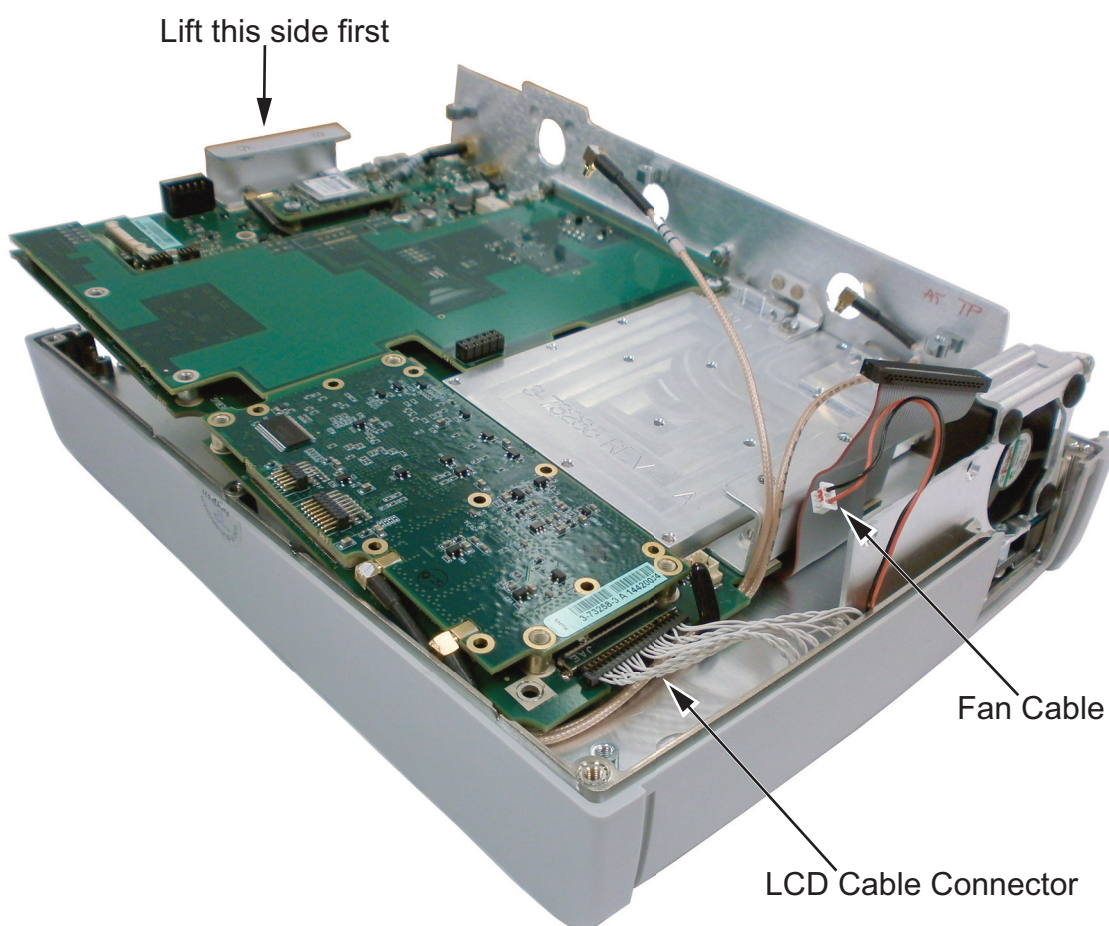

Figure 5-5. Removing Mother Board from Case
- a. First lift the assembly from side with the Keypad PCB Cable and move the assembly upward and away from LCD Cable side as shown in Figure 5-5 on page 5-6. In this figure, the SPA PCB has been removed, but the method for disconnecting the LCD Cable remains the same.